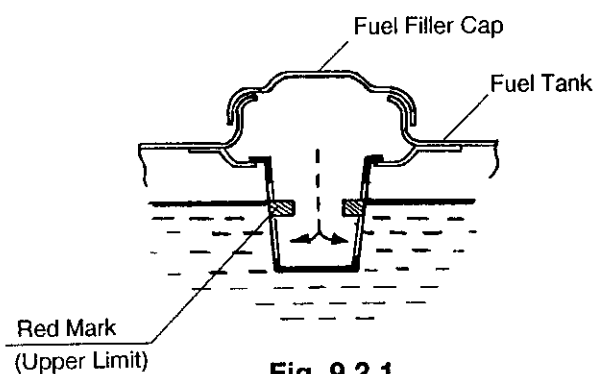

Fig. 9.2.1
- Add the fuel to the specified level (within the upper limit). (Fig. 9.2.1)